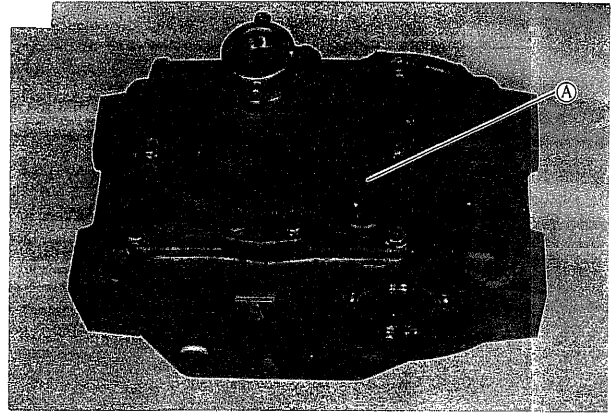

Fig. 53
- (3) Install the top cover so that its filler hole are located closest to the motor. (Fig. 53)